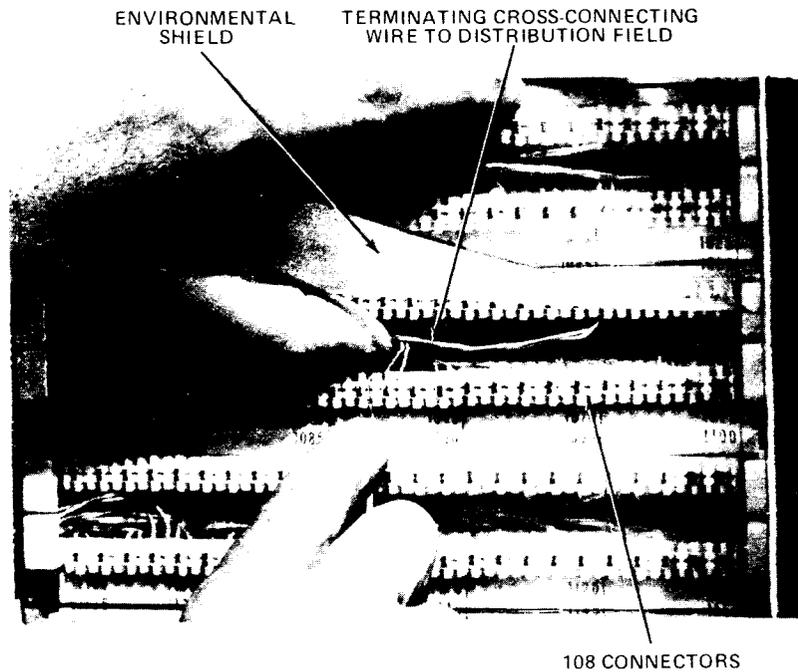

Fig. 4—Terminating Cross-Connecting Wire on Distribution Field—108-Type Connectors
4.02 Locate the assigned distribution pair. Pull enough cross-connecting wire from the spool to reach the assigned distribution pair. Then, raise the environmental shield and insert the F cross-connect wire into the block, splitting the tip and ring conductors over the black high tooth (Fig. 4). The tip conductor is on the left, and the ring conductor is on the right.